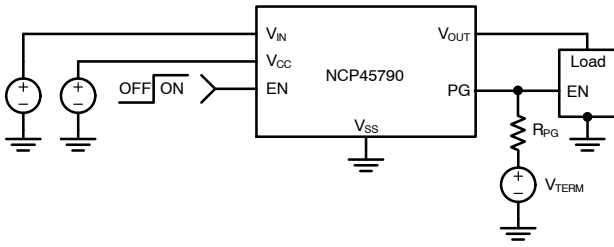

Figure 25. Guaranteed-by-Design Power Sequencing Example
The NCP45790 device has a power good output (PG) that can be used to indicate when the gate of the MOSFET is fully charged. The PG pin is an active-high, open-drain output that requires an external pull up resistor, R_{PG} , greater than or equal to 100 kΩ to an external voltage source, V_{TERM} , that is compatible with input levels of all devices connected to this pin (as shown in Figures 25). The power good output can be used as the enable signal for other active-high devices in the system (as shown in Figure 25). This allows for guaranteed by design power sequencing and reduces the number of enable signals needed from the system controller. If the power good feature is not used in the application, the PG pin should be tied to GND.